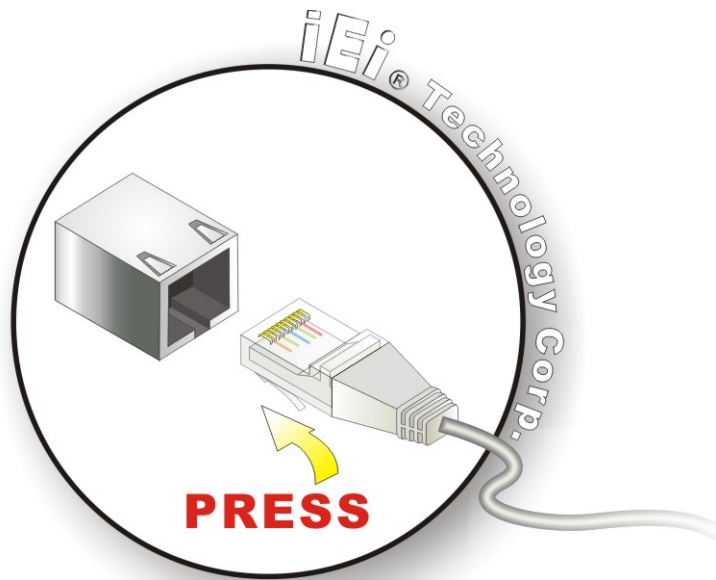

Figure 3-8: LAN Connection
Step 2: **Align the connectors.** Align the RJ-45 connector on the LAN cable with one of the RJ-45 connectors on the TANK-GM45. See **Figure 3-8**.